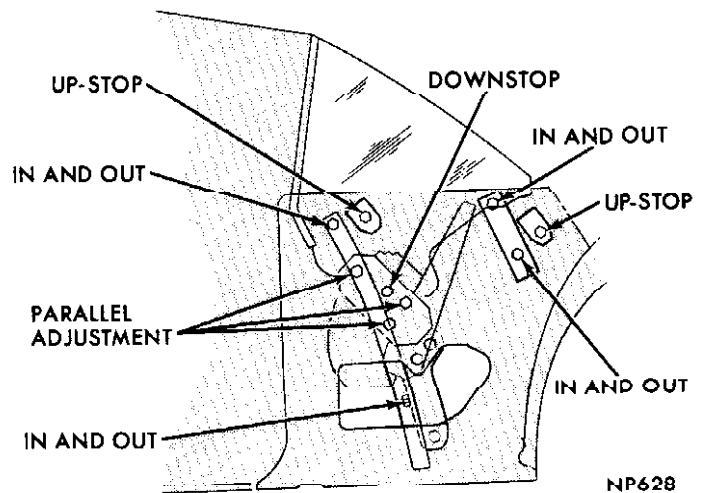

Fig. 38—Quarter Window Adjustments—Hardtop
- (1) Raise quarter window 2 inches above belt line.
- (2) Adjust top of front and rear tracks (Fig. 38) until glass just touches the outer belt weatherstrip and tighten nuts.
- (3) Raise window to the upper weatherstrip and adjust regulator so glass at front contacts weatherstrip and is parallel to the weatherstrip bead. Tighten regulator screws.
- (4) Adjust bottom of front and rear tracks until
(7) Adjust regulator down-stop (Fig. 38) so glass contacts outer weatherstrip lightly for full length.